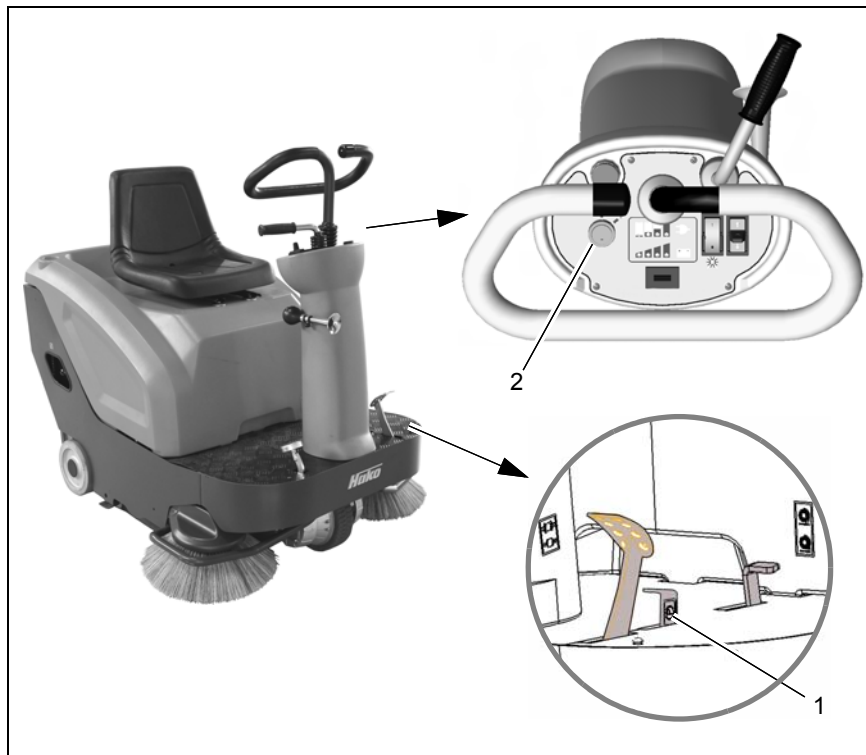

Fig.10
2. The vehicle's parking brake must be applied (Fig. 10/1).
3. Switch the vehicle on with the key switch (Fig. 10/2).